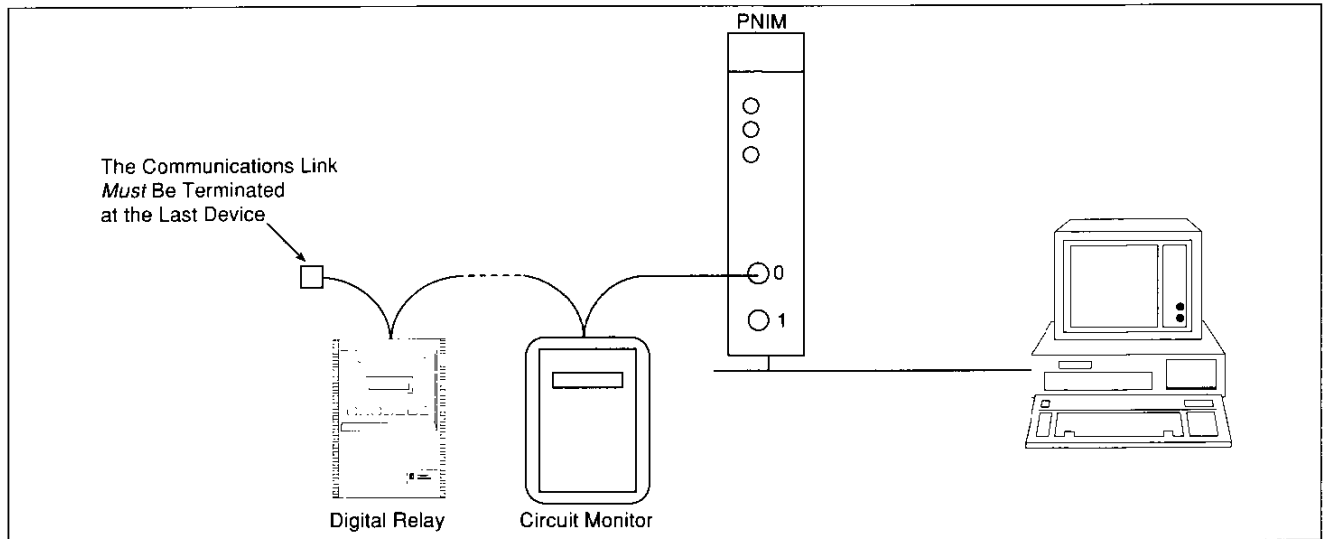

Figure 33: RS-485 terminator placement
To ensure reliable communications, terminate the last device on a POWERLOGIC communications link. Figure 33 illustrates terminator placement when the final device on the link is a digital relay. If the last device is not a digital relay, refer to the last device's instruction bulletin for termination instructions.
*Note: If a communications link contains only a single device, it must be terminated. If a link contains multiple devices, as in figure 33, only the last device must be terminated.*
Figure 33 illustrates proper termination. Refer to this figure when completing the steps listed below.